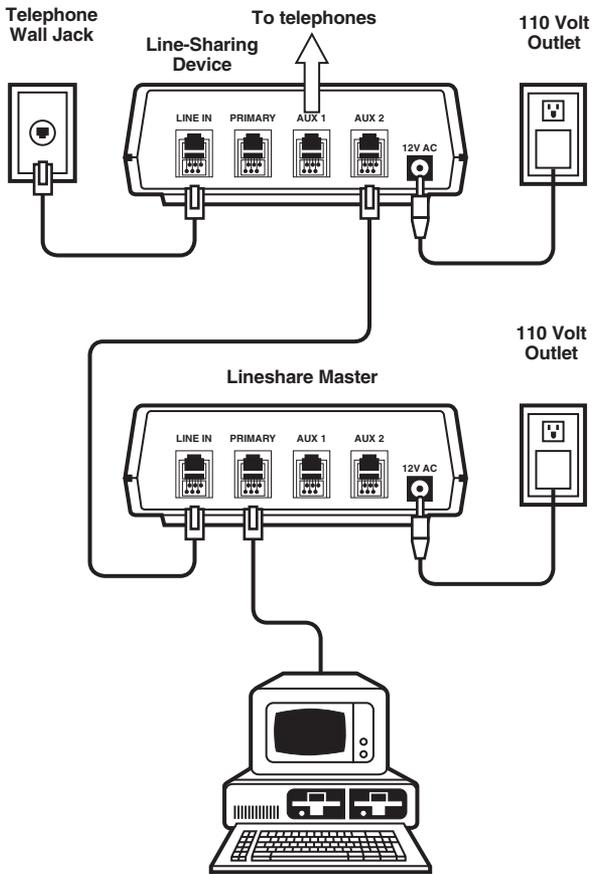

Figure 3-3. The Lineshare Master Installed with a Line Sharing Device.
**Figure 3-3** shows the Lineshare Master installed on a single phone line with a line-sharing device.